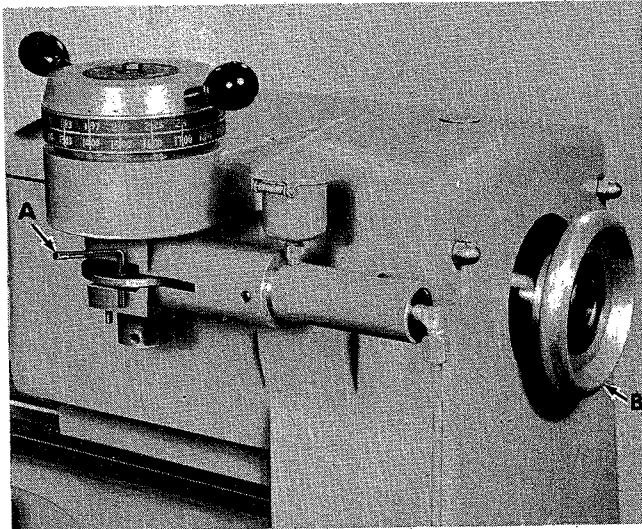
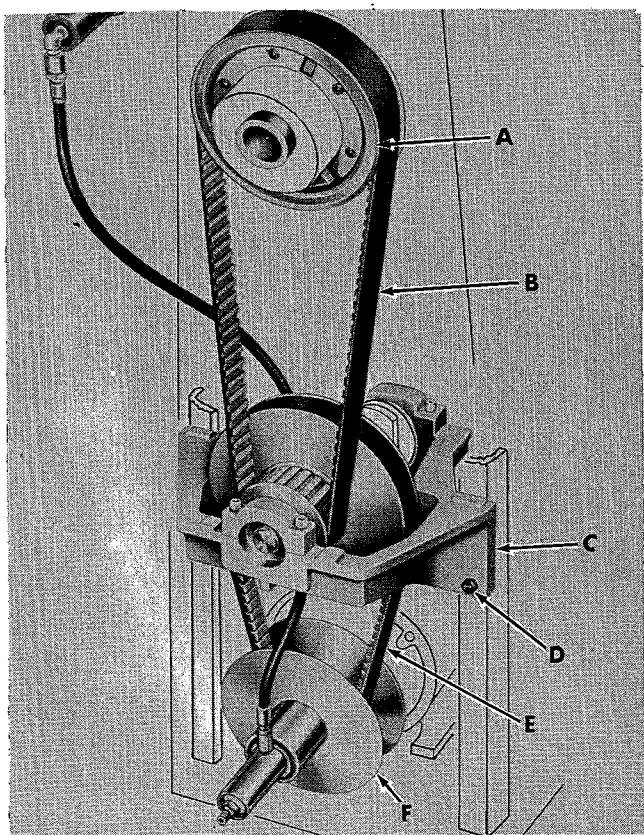
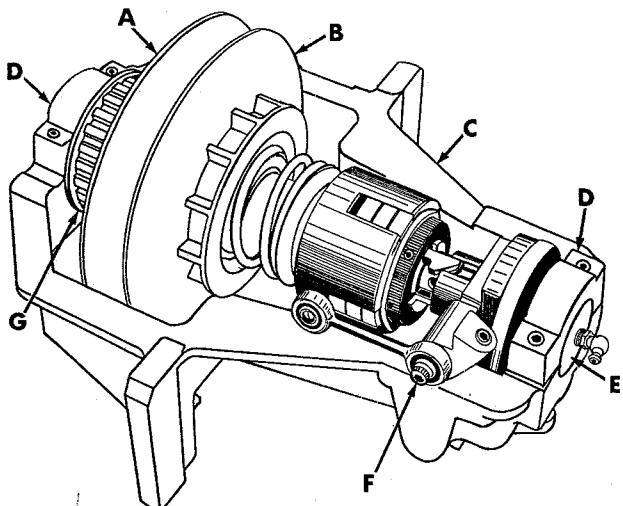

Figure 21
Figure 22
Figure 23
- Remove spindle handwheel (B) (fig. 21), belt guards and front cover.
- Turn variable dial back to lowest speed and lock dial in place with pin (A).
- Holding variable dial against low speed stop, pull on outer sheave of lower variable motor pulley (F) (fig. 22) until variable belt (E) is loose.
- Thru front cover opening, remove 5/16"-18 hex cap screw (F) (fig. 23) and spacer from clutch linkage.
- Remove four hex nuts (D) (fig. 22). Raise countershaft (C) slightly and slip timing belt (B) off spindle pulley (A). Lower countershaft and slip variable belt (E) off variable motor pulley (F).
- Remove bearing caps (D) (fig. 23), snap rings and countershaft spindle (E) from bracket (C).
- Install spindle in countershaft bracket and secure in place with snap rings and bearing caps (D). **IMPORTANT:** Make sure timing belt is in place before installing bearing caps.
- Position the countershaft (C) (fig. 22) so variable belt (E) can be slipped on motor pulley (F), then raise countershaft so timing belt (B) can be slipped on spindle pulley (A).
- Place countershaft assembly on the four mounting studs (D), then snug up the four hex nuts. Refer to Tensioning Timing Belt steps 2-5.
- Remove lock pin (A, fig. 21) from variable cam housing.
2. Remove spindle handwheel (B) (fig. 21), belt guards and front cover.
3. Turn variable dial back to lowest speed and lock dial in place with pin (A).
4. Pull on outer sheave of lower variable motor pulley (F) (fig. 22) until variable belt (E) is loose.
5. Thru front cover opening, remove 5/16"-18 hex cap screw (F) (fig. 23) and spacer from clutch linkage.
6. Remove four hex nuts (D) (fig. 22). Raise countershaft (C) slightly and slip timing belt (B) off spindle pulley (A). Lower countershaft and slip variable belt (E) off variable motor pulley (F).
8. Remove bearing caps (D) (fig. 23), snap rings and countershaft spindle (E) from bracket (C).
9. Remove timing belt from countershaft pulley (G).
10. Place new timing belt on countershaft pulley (G).
11. Install spindle in countershaft bracket and secure in place with snap rings and bearing caps (D). **IMPORTANT:** Make sure variable belt is in place before installing bearing caps.
12. Position the countershaft (C) (fig. 22) so variable belt (E) can be slipped on motor pulley (F), then raise countershaft so timing belt (B) can be slipped on spindle pulley (A).
13. Place countershaft assembly on the four mounting studs (D), then snug up the four hex nuts. Refer to **Tensioning Spindle Belt steps 2-5**.
15. Remove lock pin (A, fig. 21) from variable cam housing.